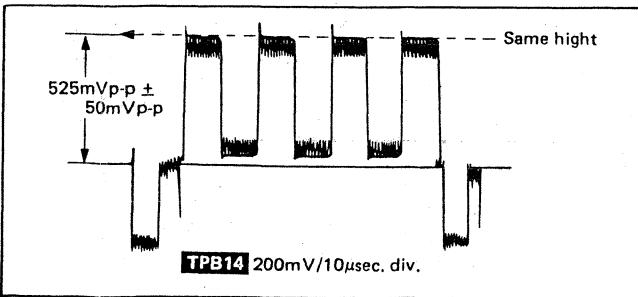

Fig. 11
4. Adjust Chroma control (R5804) so that the waveform **TPB14** becomes as shown in Fig. 11.